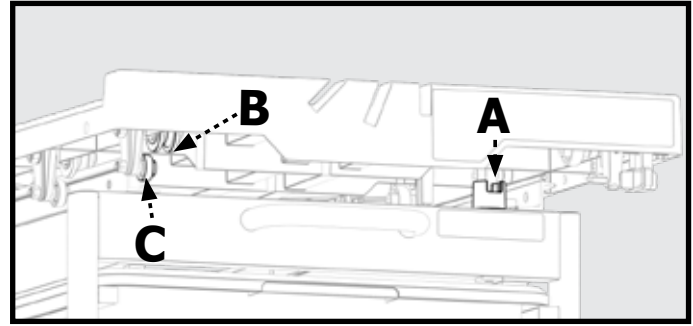

Figure 8
1. Check to make sure the slotted Table Lock (A) is loosened in the open position, as shown in Figure 8, so that the groove is parallel to the direction of movement for the table.
2. Position the Worktable (9) so that the left bearings align as shown in Figure 8. The Larger Rollers (B) should be guided on the top of the rails, as the Smaller Rollers (C) should be guided beneath the rails.